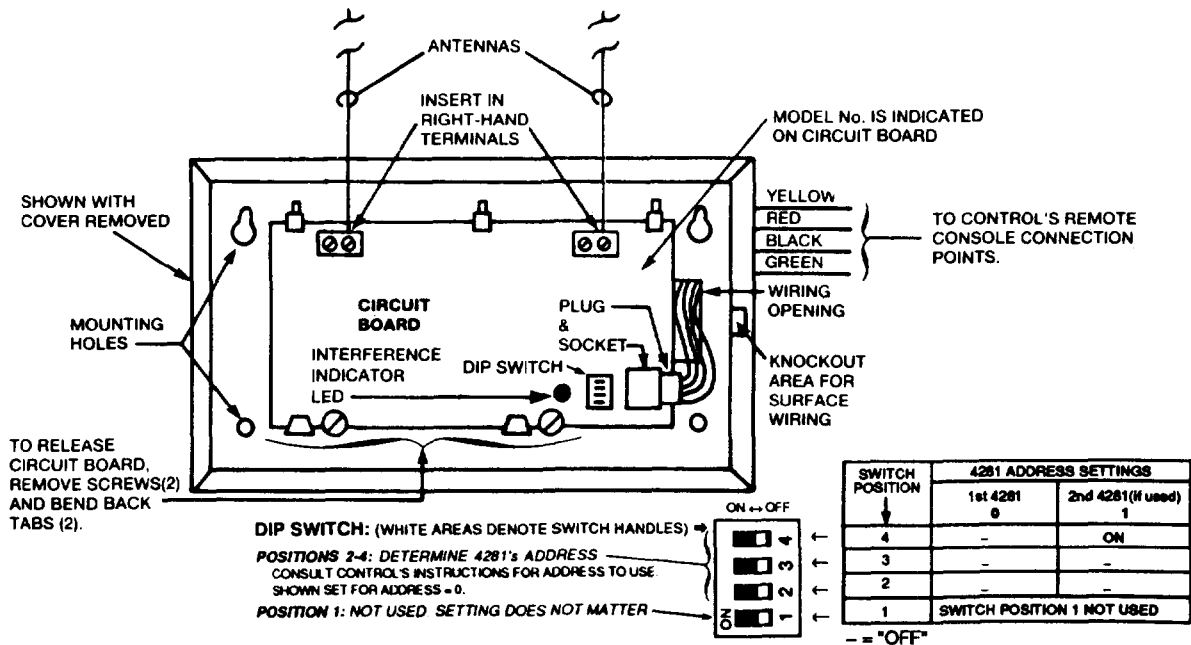

Figure 2. 4281-TYPE RF RECEIVER
- B. The receiver addresses must be different (1 and 2). See Table in Figure 2.